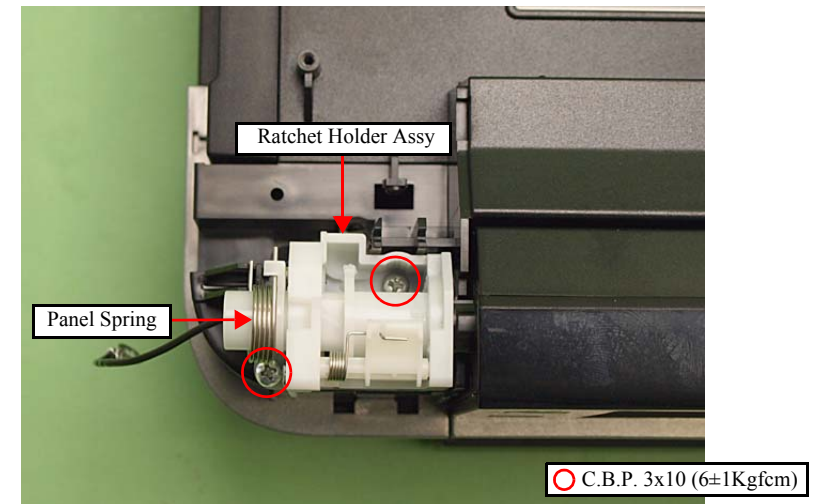

Figure 4-35. Removing the Ratchet Holder Assy (1)
2. Remove the Panel Spring (x1). (See Fig. 4-35.)